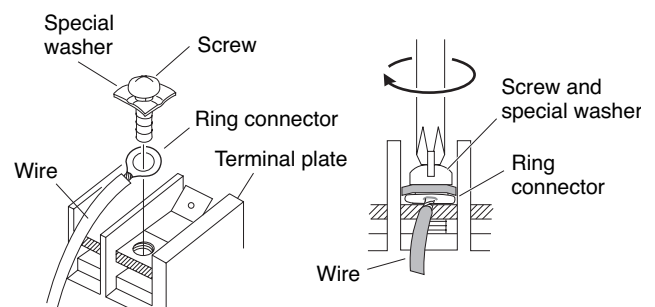

Fig. 30
- (4) Place the ring connector wire, and replace and tighten the removed terminal screw using a screwdriver. (Fig. 30)